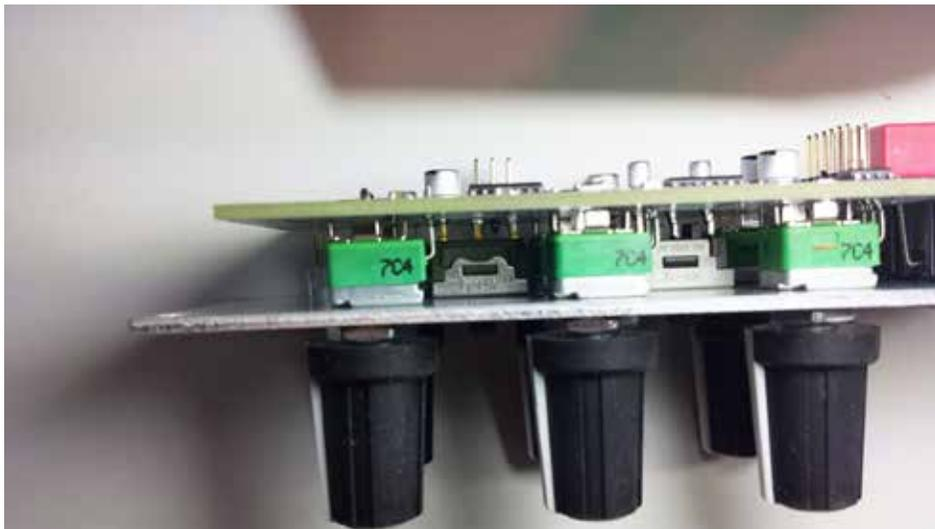

Figure 12 - Switches flush with panel
- The two switches used on the SSH are different heights. These need to be mounted with the switches flush with the front panel as shown in figure 12. The easiest way to do this is to populate the pots, jacks, LEDs and switches, then only solder in the pots and jacks. Fasten front panel to pots and jacks, then turn the unit face down and solder the switches in place. The top of the cylindrical LED should be flush with the front panel. Position the LED before soldering. If done successfully, the LED should appear to be a part of the surface of the front panel.